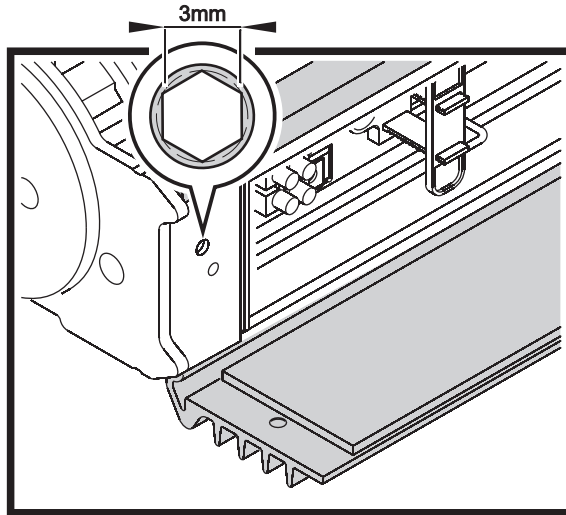

Figure 6: Arm-to-base adjustment screws
3. See Figure 6. Support the weight of the tube module. Loosen the arm adjustment screws at both ends of the base module with a long Allen key, tilt the arms to the desired angle and retighten slowly, rocking the tube module up and down slightly while you tighten so that the adjustment screws engage correctly in the cutouts in the arm.